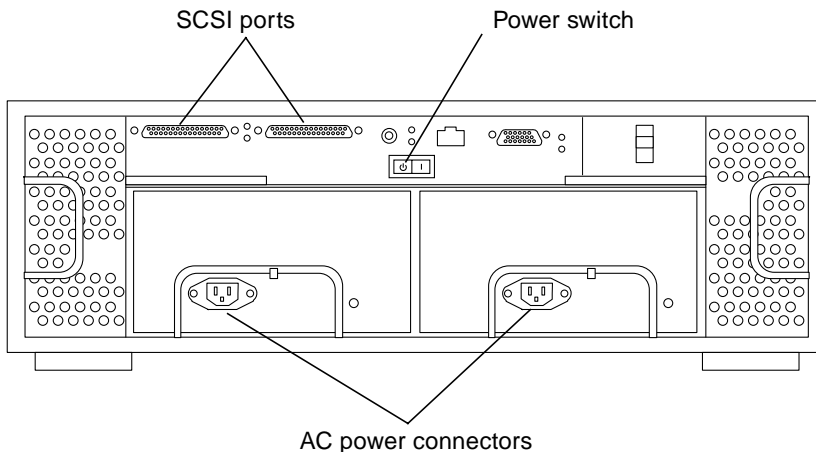
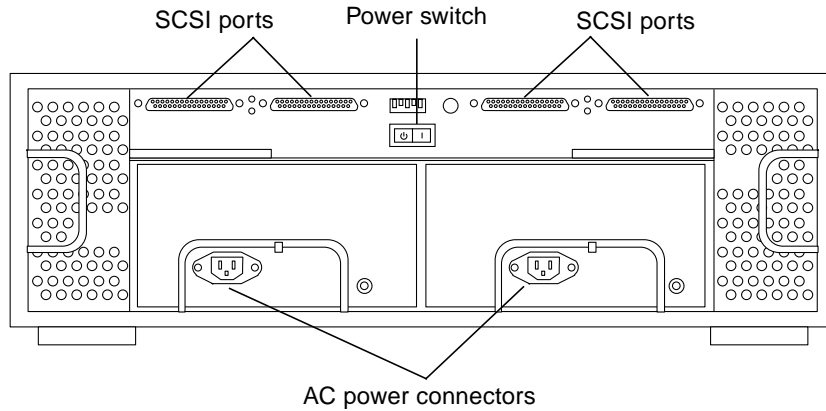

FIGURE 3-11 Netra st A1000 Rear View (AC Version)
FIGURE 3-12 Netra st D1000 Rear View (AC Version)
Refer to the documentation that came with your host system for the location of the SCSI port on the host system. FIGURE 3-11 shows the location of the SCSI ports on the Netra st A1000, and FIGURE 3-12 shows the location of the SCSI ports on the Netra st D1000.
- If you are installing the AC version of the Netra st system, connect the AC power cables to the AC power connectors, then go to Step 5. Refer to FIGURE 3-11 or FIGURE 3-12 for the location of the power connectors for the AC versions of the Netra st system.
FIGURE 3-11 shows the location of the power switch for the Netra st A1000 system, and FIGURE 3-12 shows the location of the power switch for the Netra st D1000 system. Note that when you release the power switch, the rocker switch will settle into the neutral, or center, position and the power will remain on.